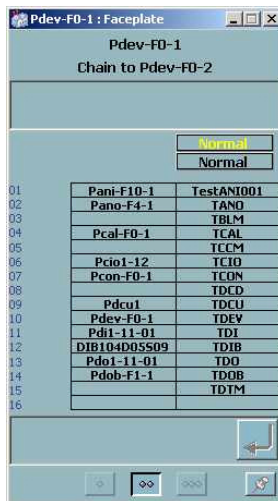

Figure 205. DEV Module
**Device (DEV).** The Device module faceplate represents a table of actual device names against a table of pseudo device names. The use of pseudo device names allows a phase CCL file to be written once using the pseudo device names so that it can be used for multiple trains of identical equipment. During phase execution, the selected pseudo device module will pull in the actual device data from the DEV module. The DEV module reports up to 16 pointer names for actual devices and 16 identically ordered names of an associated pseudo device module, and alarm status used for display in the faceplate. Figure 205 shows the layout of the DEV normal sized faceplate and its attributes.